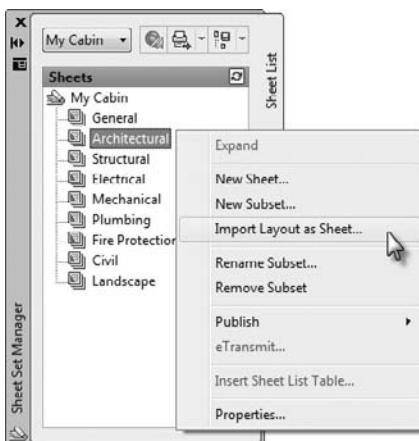

FIGURE 14.36 Importing an existing layout into Sheet Set Manager
1. Right-click on the Architectural group on the Sheet List panel of Sheet Set Manager, and choose Import Layout As Sheet (see Figure 14.36).